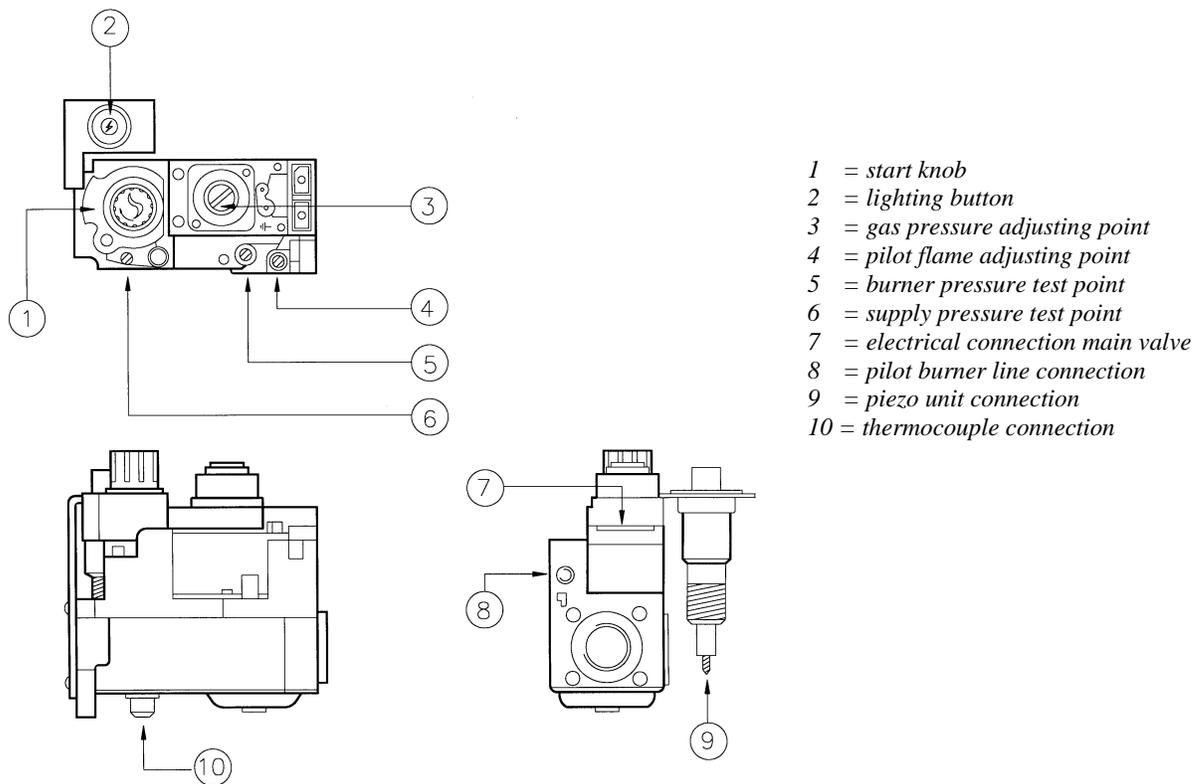

Fig. 4 Multifunctional Control
- 5.6 Remove the screw from the pressure test point on the multifunctional control (see Fig.4) and attach a pressure test gauge.
- 5.9 Adjust the pilot flame if necessary (see Fig.4 for adjustment point).
- 5.12 Allow the heater to operate for 15 minutes, then check and, if necessary, adjust the burner pressure to the output required (see Fig.4 for adjustment point and Table 4 for pressure settings).
- 5.13 To adjust the burner pressure: Remove the cover from the gas pressure adjusting point on the multifunctional control (see Fig.4), and turn the flow rate screw clockwise to increase, anti-clockwise to decrease.